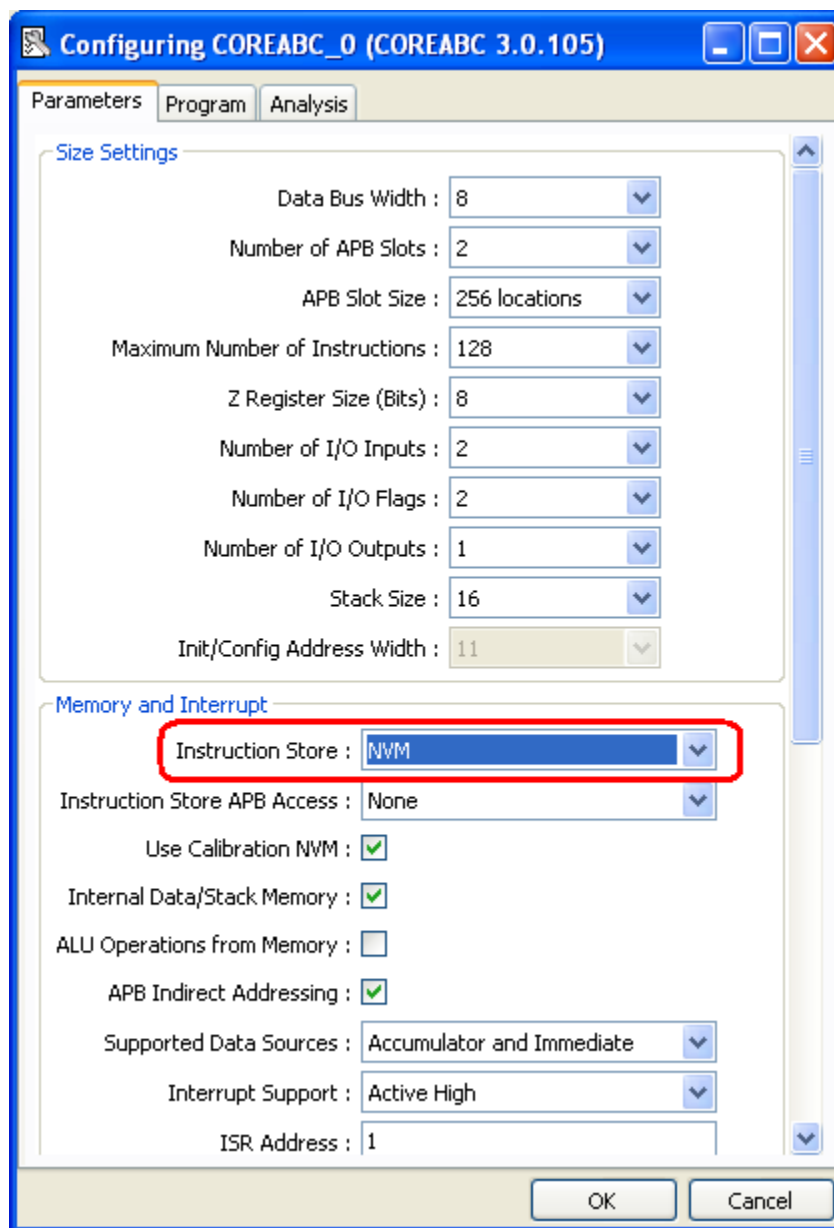

Figure 7-9 • Instruction Store Option
1. Set the **Instruction Store** option to **NVM**, as shown in Figure 7-9.